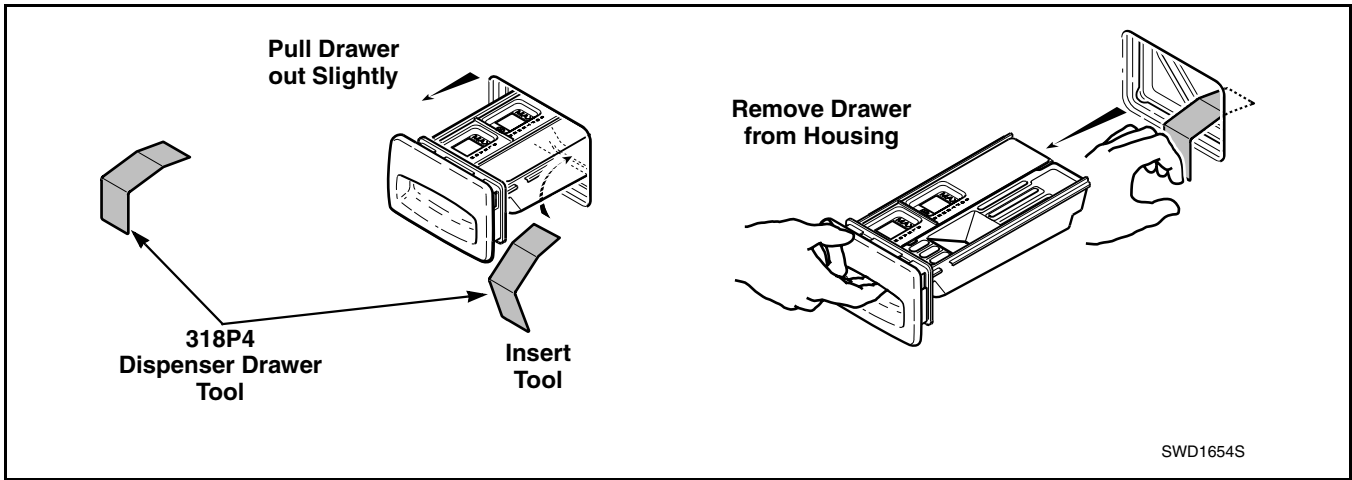

Figure 13
- g. Using the special tool, No. 318P4, remove the dispenser drawer. Refer to *Figure 13*.
- a. Using the special tool, No. 318P4, remove dispenser drawer. Refer to *Figure 13*.